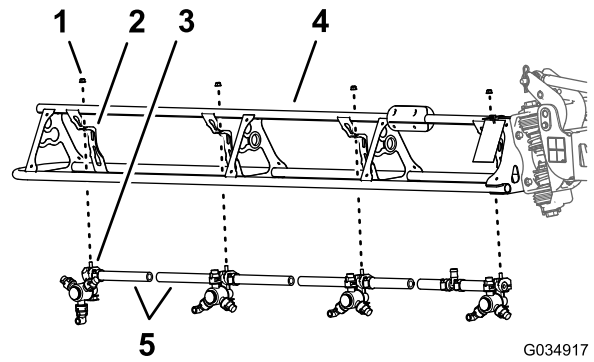

Figure 67
2. Remove the flange locknut (5/16 inch) that secures the sprayer nozzle to the nozzle support (Figure 67).
1. At the outer-boom section, cut the hose between 2 sprayer nozzles (Figure 67).